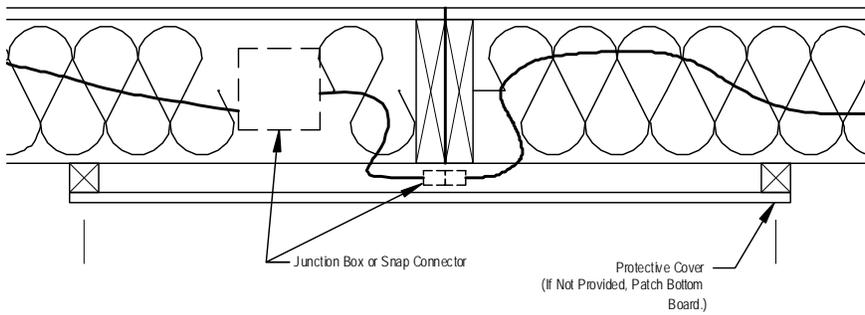

Figure 63. Floor electrical crossover wires with bumped-out access panel
2. **Route wires.** Pass the wires through predrilled holes or notches in the rim joist or if there is a single bumped-out access panel as in **Figure 63**, then under the rim joists. If holes or notches have not been provided and there is no bumped-out access panel, drill maximum one-inch diameter hole(s) half-way up the rim joists on each home section, making sure the holes align and feed the wire through the hole.